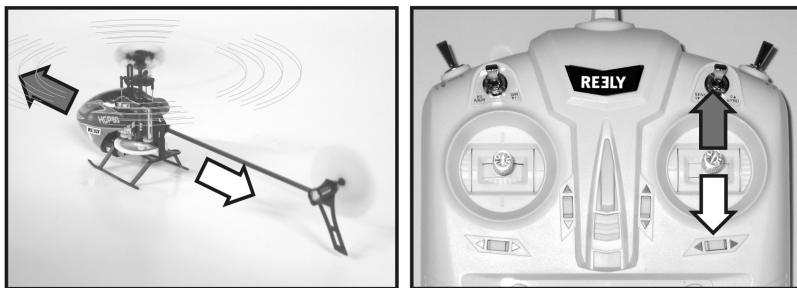

Figure 14
The nod function allows you to move your model helicopter forward and backward (see figure 14). This is also controlled with the right control stick (also see figure 1, item 4).